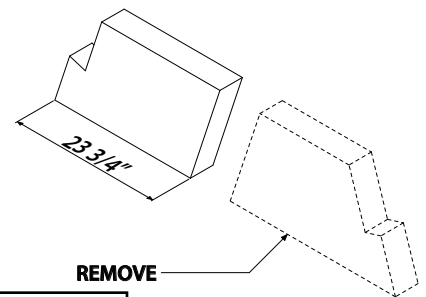

FIGURE 35
**Step 12:** Cut one end of two of the smoke dome top large, part 13, components at an angle parallel to the opposite end of the piece. The bottom length of the cut piece should measure 23 3/4" (Figure 35).